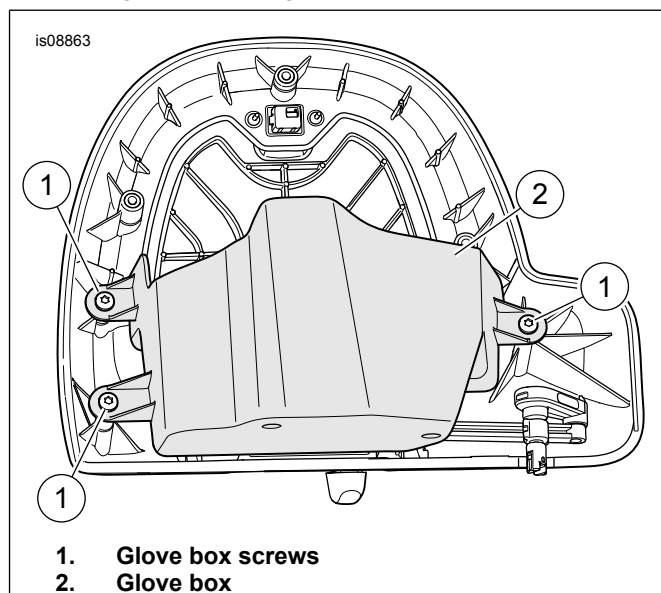

Figure 3. Glove Box Screws
3. See Figure 3. Remove the three glove box screws. Remove the glove box assembly (2).